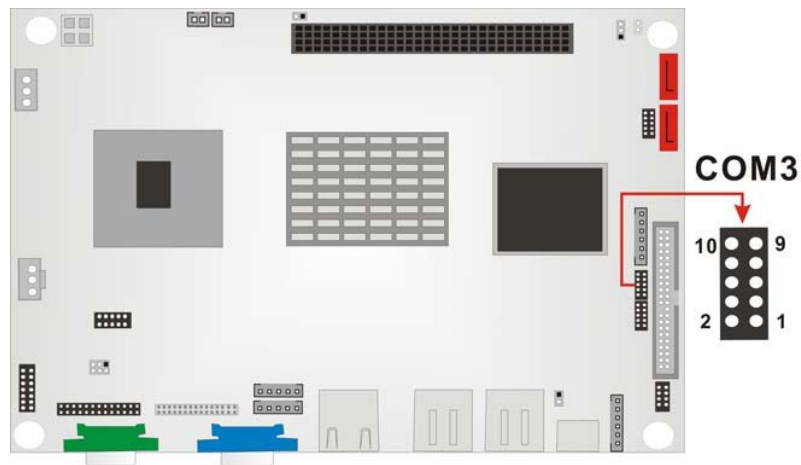

Figure 3-23: COM3 Connector Location
- CN Location:** See Figure 3-23